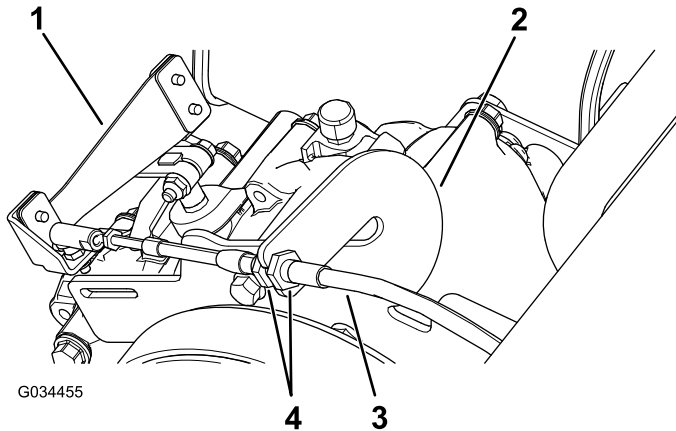

Figure 58
1. Loosen the jam nuts on the gear-shift cable and adjust them as necessary (Figure 58).
2. Test the gear-shift position by rotating the gear-shift selector to the 3 different positions and check to see if the shift lever (Figure 58) shifts properly when shifting the gears; refer to Gear-Shift Lever and Gear-Shift Indicator (page 14).